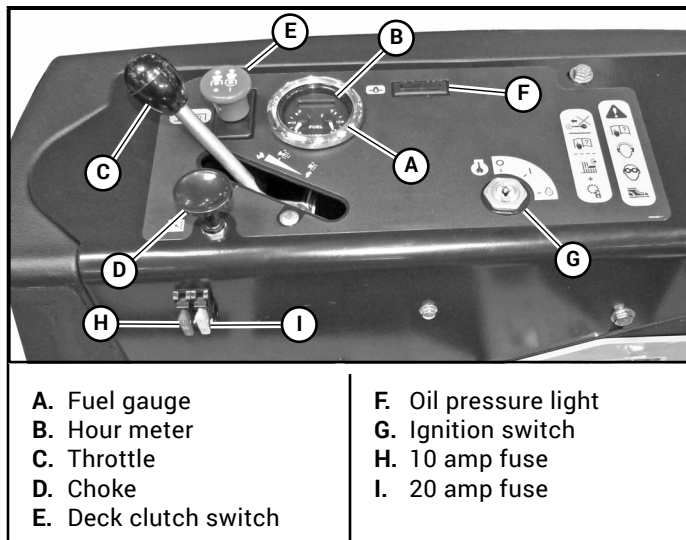
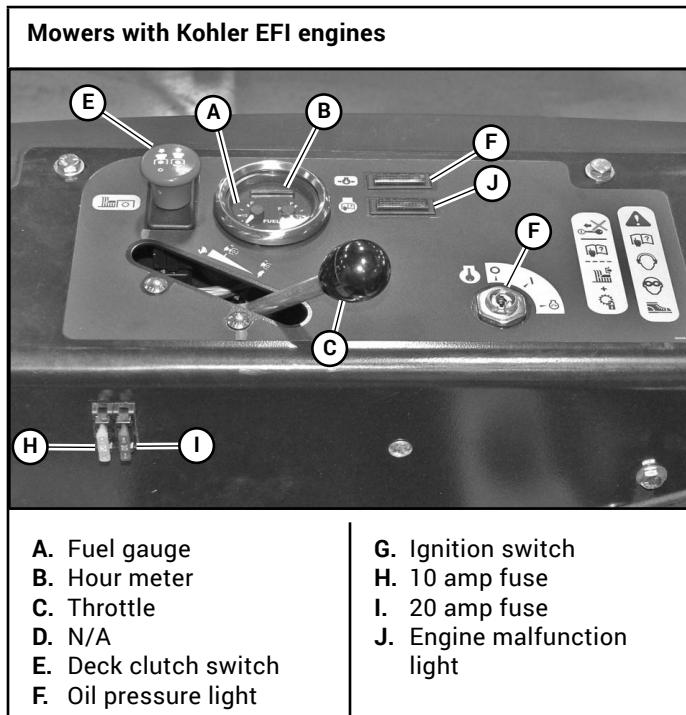
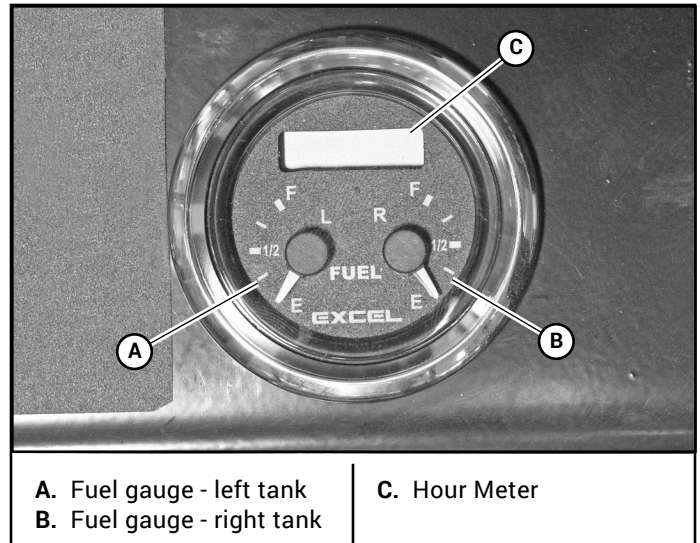

Figure 3-1
Figure 3-2
Figure 3-3
- A. Fuel tank gauge (Figure 3-1, Figure 3-2 & Figure 3-3)** — this gauge shows the fuel level for each fuel tank. The right gauge indicates the fuel in the right tank and the left gauge indicates the fuel level in the left fuel tank.
- B. Electronic hour meter (Figure 3-1, Figure 3-2 & Figure 3-3)** — registers 1/10 hour increments up to 9,999.9 total hours. It is connected to the ignition switch. It records the accumulative time while the ignition key is switched to the “RUN” position.
- C. Throttle control (Figure 3-1 & Figure 3-2)** — a cable is linked to the engine throttle for controlling engine speed. Move the lever forward to increase engine rpm, move the lever rearward to decrease engine rpm.
- D. Choke control (Figure 3-1)** — a cable is linked to manually operate the engine choke. When the lever is in the down position, the choke is in the “OFF” (run) position. When the knob is pulled up, the choke is in the “ON” (start) position. Do not operate the machine in the “ON” (start) position.
- E. Deck clutch switch (Figure 3-1 & Figure 3-2)** — this switch engages the deck. Pull the switch up to engage and push switch down to disengage the clutch.
- F. Oil pressure light (Figure 3-1 & Figure 3-2)** — this light comes on when the ignition switch is placed in the “RUN” position and stays lit until the engine is running and a safe oil pressure is developed. If the light comes on during operation, shut the engine off immediately and locate and correct the problem.
- G. Ignition switch (Figure 3-1 & Figure 3-2)** — a three position switch: “OFF”, “RUN”, and “START”. With key inserted, rotate it clockwise to the “START” position; release the key when the engine starts, and the switch will automatically return to the “RUN” position.
- H. 10 amp fuse (Figure 3-1 & Figure 3-2)** — ignition system & safety system - 10 amp, blade-type.
- I. **20 amp fuse (Figure 3-1 & Figure 3-2)** – Controller - 20 amp, blade-type.
- J. **Engine malfunction light (Figure 3-2)** – this light comes on when there has been an engine malfunction on mowers with electronic fuel injected engines. Refer to the engine owner's manual for more details.